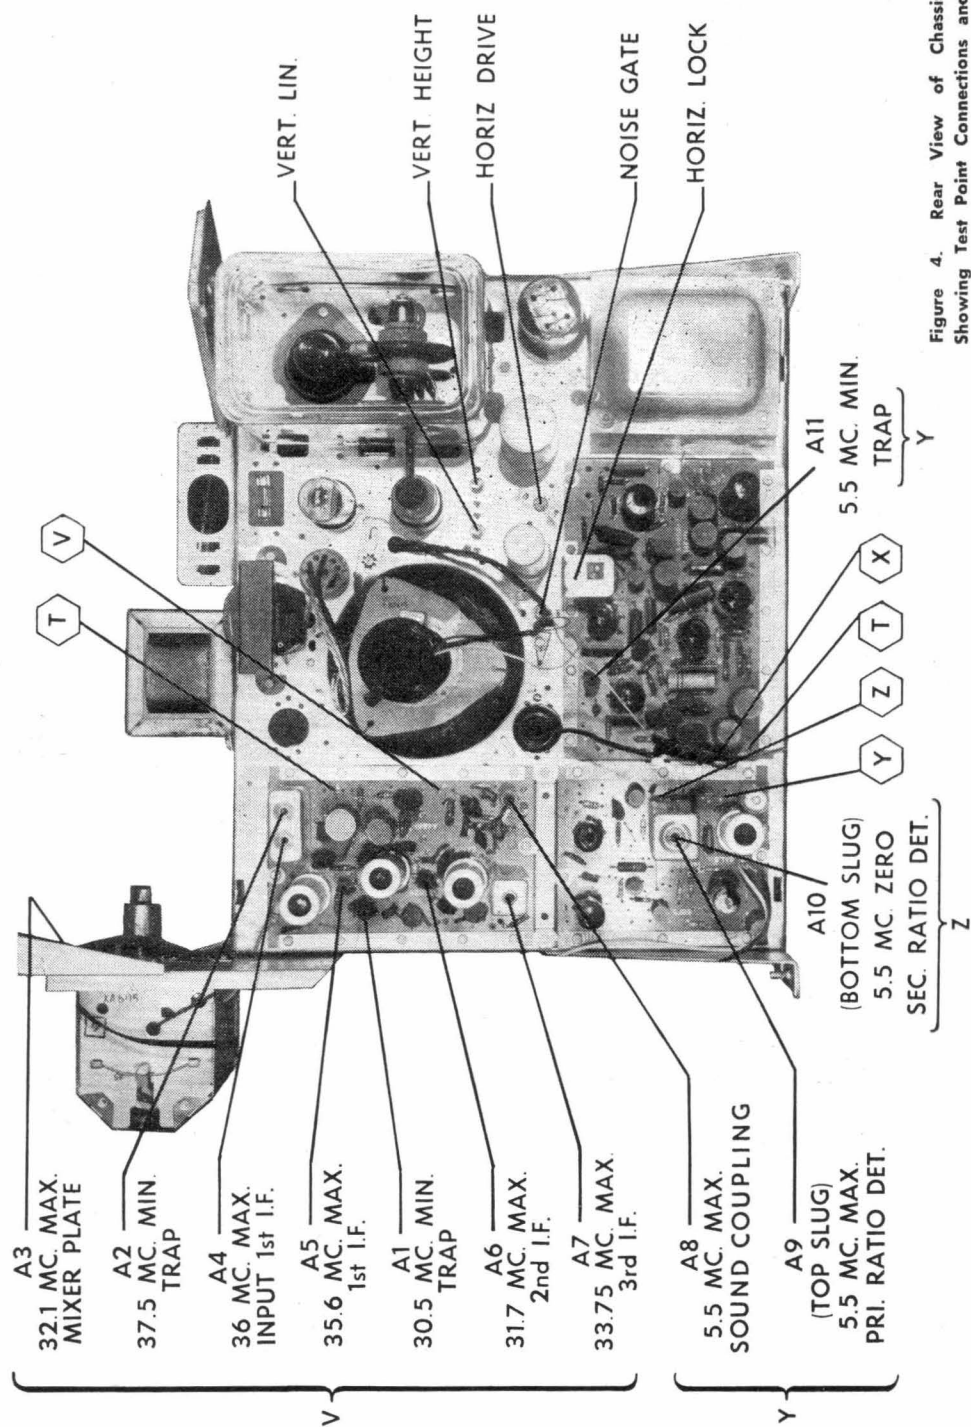

Figure 4. Rear View of Chassis Showing Test Point Connections and IF Alignment Data.
After becoming familiar with alignment procedure, some servicemen simplify subsequent alignment of sets by merely using the essential alignment data given in figure 4.
- Connect VTVM high side to test point "V" through a decoupling filter, common to chassis. See figures 4 and 5. Use lowest DC scale on VTVM.